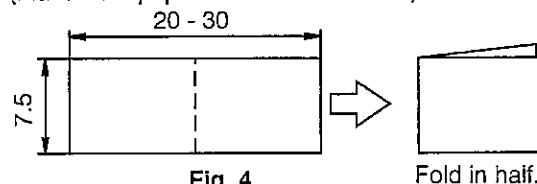
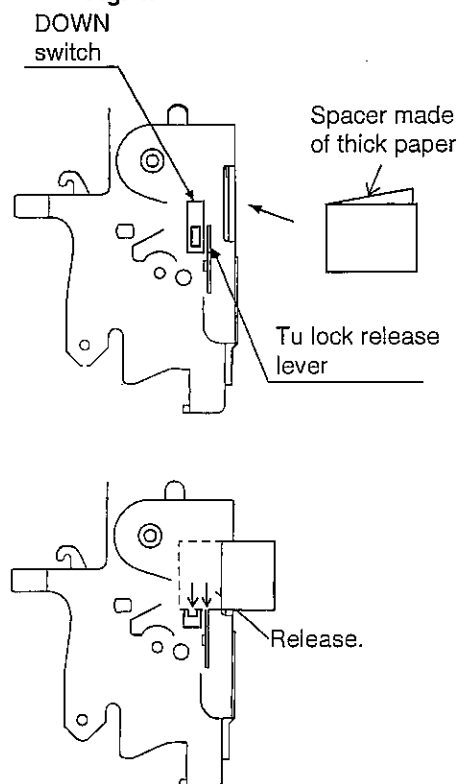

Fig. 4.
Fig. 5.
- (4) From the front side of the mechanism, while pushing the DOWN switch and the Tu lock release lever in the direction of the arrow in Fig. 5, for example with a slotted screwdriver, insert the thick paper (about 0.5mm thick) shown in Fig. 4 from the rear side of the mechanism as shown in Fig. 5, then release the DOWN switch and the Tu lock release lever (do this in such a way that the switch will come ON). At this time, be careful not to deform the Tu lock release lever.
- (5) After releasing the Tu lock release lever, confirm that the Tu reel base rotates smoothly in both directions.